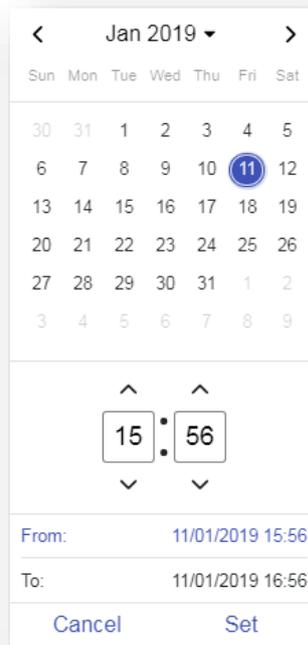

Figure 25: Calendar/ time control
- **Range** (which is the default with 1 hour past of current time) allows you to specify an explicit date/time range. Clicking on the start or end date fields will display a calendar/ time control, as shown in Figure 25 below. That control will indicate whether you are modifying start or end time by blue highlight at the bottom of time control. Users need to set start or end time before setting up its counterpart.